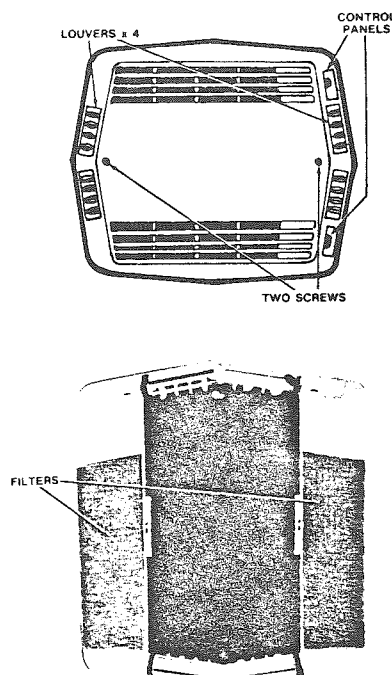

Figure 181 — Filter Removal
2. Remove the two screws that secure the ceiling assembly shroud to the ceiling assembly (see figure 181).